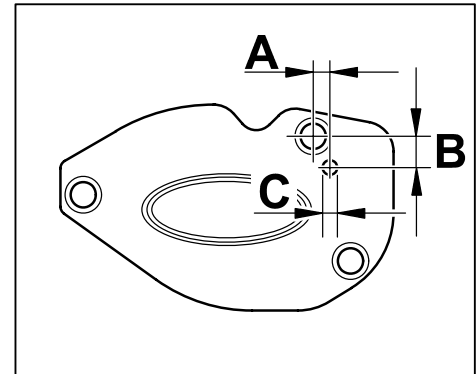

Figure 10
2.3.1 Drill the bore hole on the heat shield on the engine carrier according to the dimensions shown in \Rightarrow Figure 10.